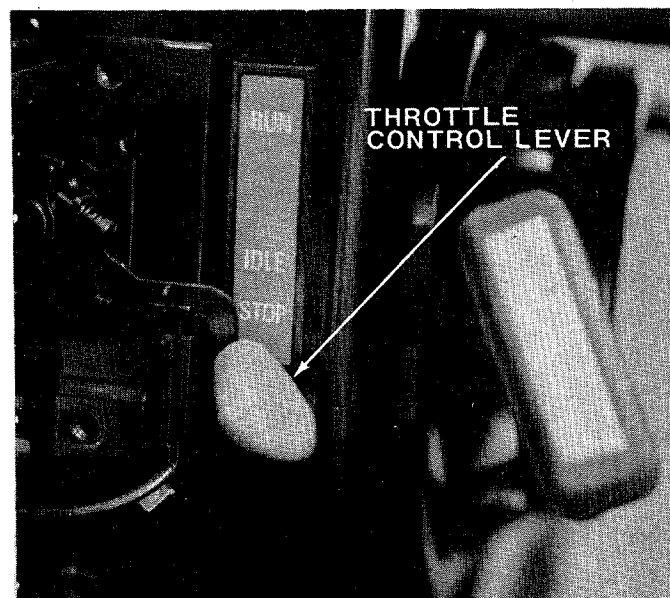

FIGURE 8
1. Place control lever (on engine) in run position. See figure 8.
1. Move control lever to **STOP** position. See figure 8.